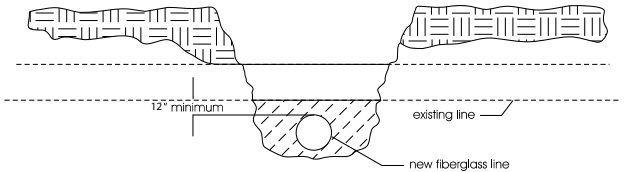

Figure 5 - Line crossing burial depth
- **Line Crossings** (Figure 5)